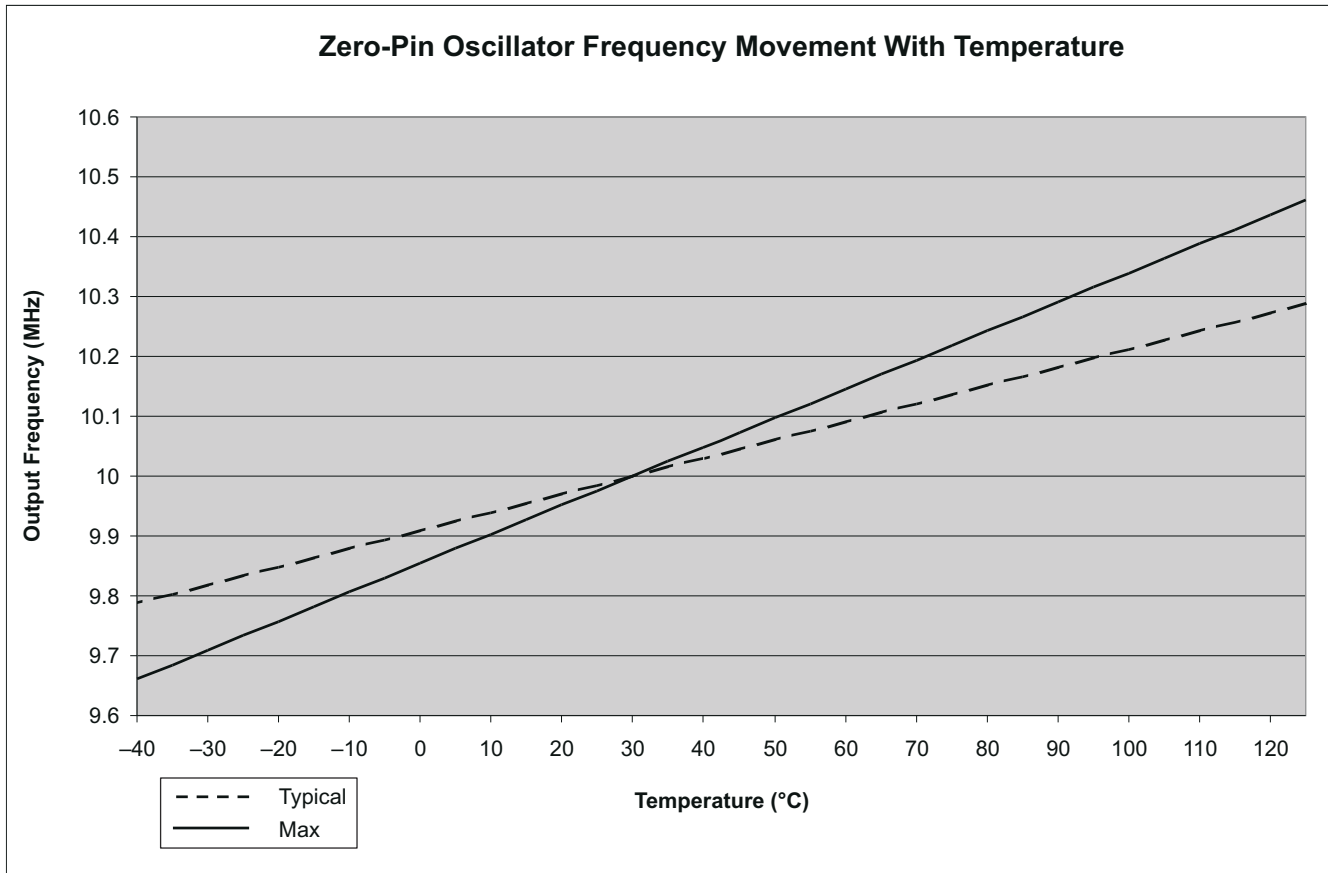

Figure 7-9. Zero-Pin Oscillator Frequency Movement With Temperature
- (1) Oscillator frequency will vary over temperature, see Figure 7-9. To compensate for oscillator temperature drift, see the Oscillator Compensation Guide and C2000Ware.
- (2) Frequency range ensured only when VREG is enabled, $\overline{VREGENZ} = V_{SS}$.
- (3) Output frequency of the internal oscillators follows the direction of both the temperature gradient and voltage (V_{DD}) gradient. For example: